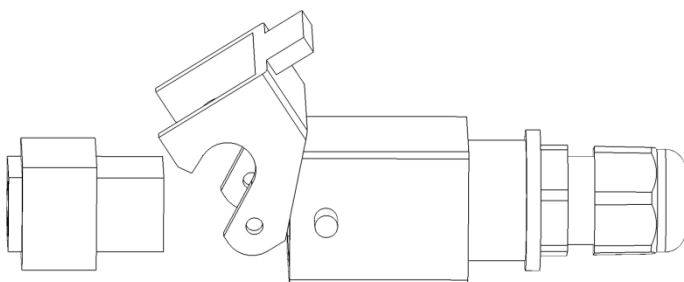

Figure 5: Remove the Connector
3. Pull out the connector from the protective cover (Figure 5).